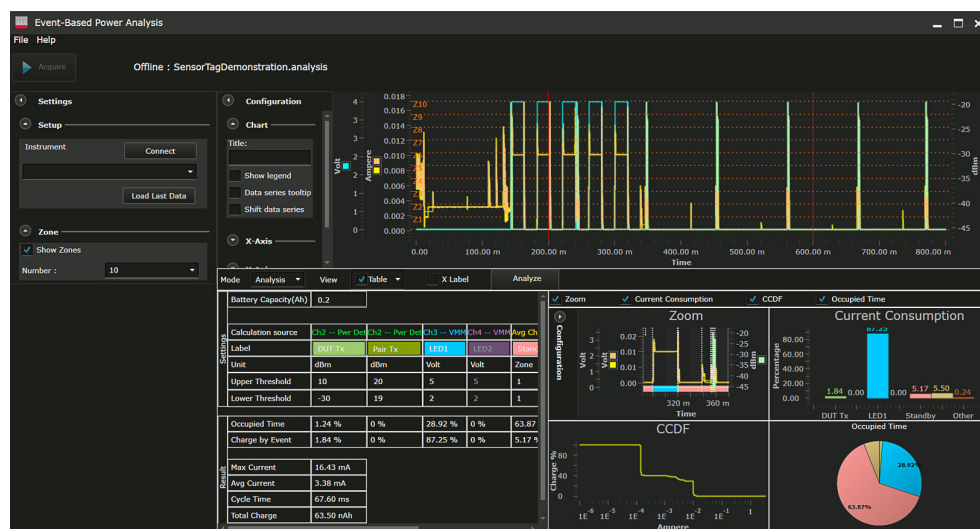

Figure 1: Keysight KS833A1B event-based power analysis
3. Recall a setting file	<p>Click {File}, {Open}.</p> <p>Go to path C:\Program Files\Keysight\EBPA\</p> <p>Double click on “SensorTagDemonstration.analysis”</p> <p>Now you should see a display similar to what is shown in Figure 1. The settings below are applied.</p> <p>Ch1: battery emulator, 5 V</p> <p>Ch2: power detector</p> <p>Ch3: voltage meter</p> <p>Sample size: 20000</p> <p>Time interval: 40 us</p>